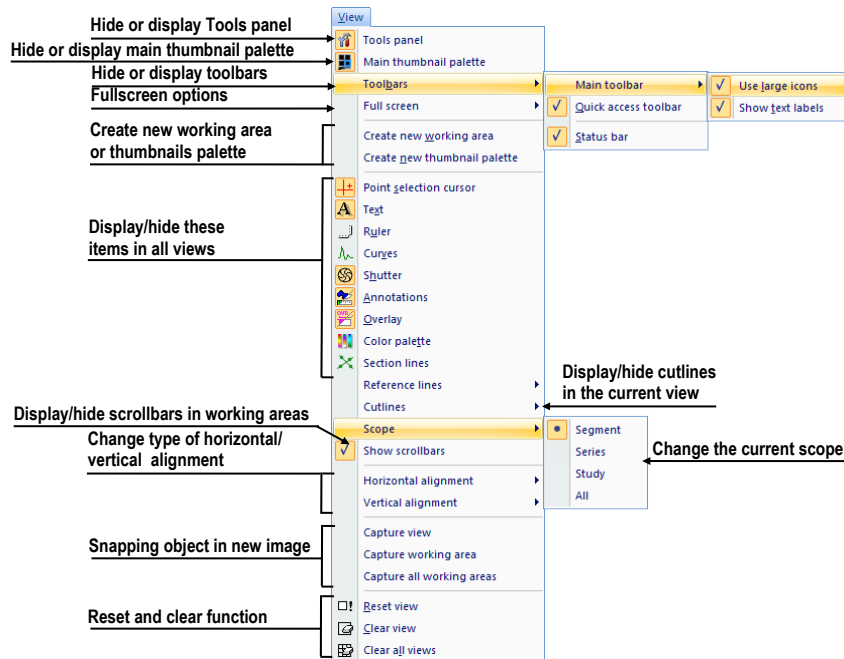

Figure 46 – View menu
- **View** – displaying/hiding toolbars, image descriptions, cutlines, reference lines, scrollbars in working areas, changing the current scope, view size, deleting views, creating new working areas or thumbnails palettes and changing the alignment of the images in the views (see Figure 46).